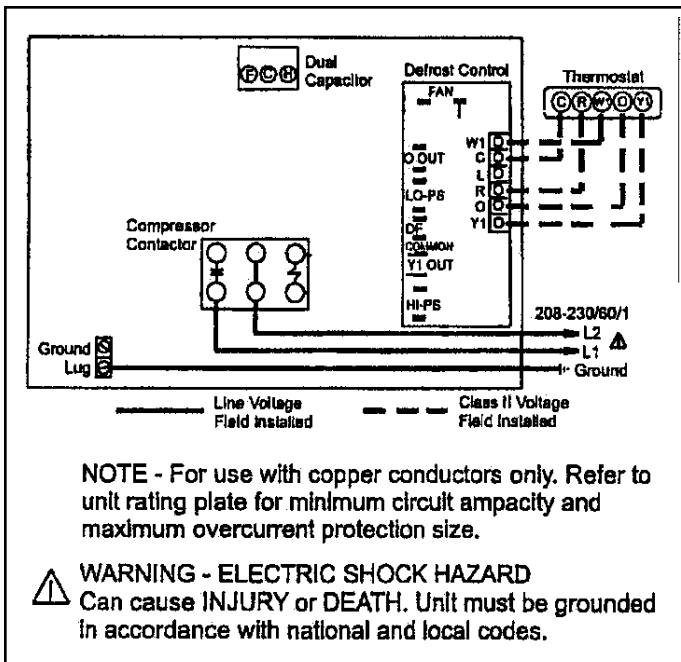

Figure 4. Typical Field Wiring Diagram Non-Communicating
2. Ground unit at unit disconnect switch or to an earth ground. To facilitate conduit, a hole is in the bottom of the control box. Connect conduit to the control box using a proper conduit fitting. Units are approved for use only with copper conductors. 24V Class II circuit connections are made in the low voltage junction box. Refer to Figure 4 for high voltage field wiring diagram. A complete unit wiring diagram is located inside the unit control box cover and in the back of this document.